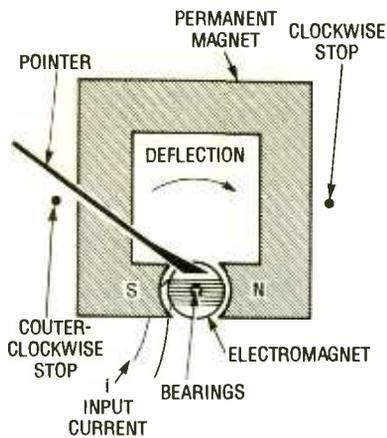

Fig. 1. This is a simple d'Arsonval movement. The deflection of the needle is proportional to the input current ( $i$ ).
**d'Arsonval Operation.** The functioning of the d'Arsonval movement is remarkably straightforward. In its simplest form, a coil of fine wire is wrapped about a cylindrical iron core to form an electromagnet (Fig. 1). The electromagnet is then mounted on very-low-friction bearings between the poles of a permanent magnet. A tension spring, stops, and a pointing nee-